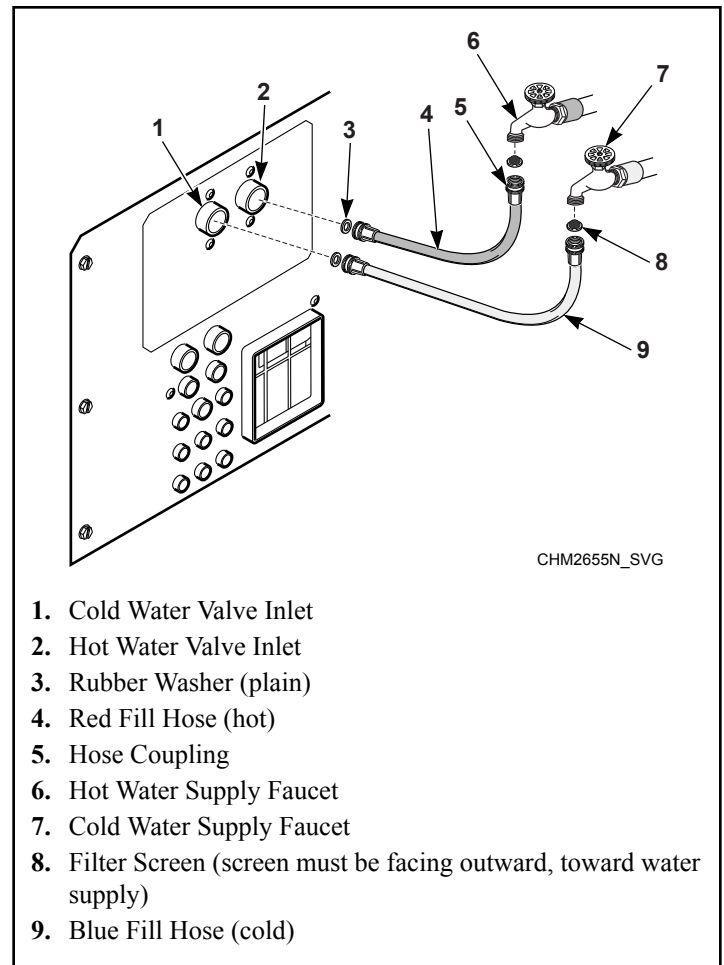

Figure 34
1. Before installing hoses, flush the building's water system at the machine connection valves for at least two (2) minutes.
2. Remove the two (2) plain rubber washers and two (2) filter screens from the accessories bag supplied with the machine.
3. Install one (1) plain rubber washer onto one end and one (1) filter screen into the other end of each fill hose. The screens must be facing outward toward the water supply. Refer to *Figure 34*.